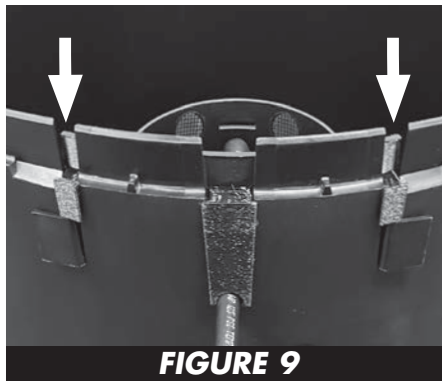

FIGURE 9
e. **BRINE WELL RETAINER** — Install the brine well retainer above the brine well by pushing the retainer down with the tabs facing outward. Ensure the retainer is flush with the tank and pushed all the way down (**Fig. 9**).